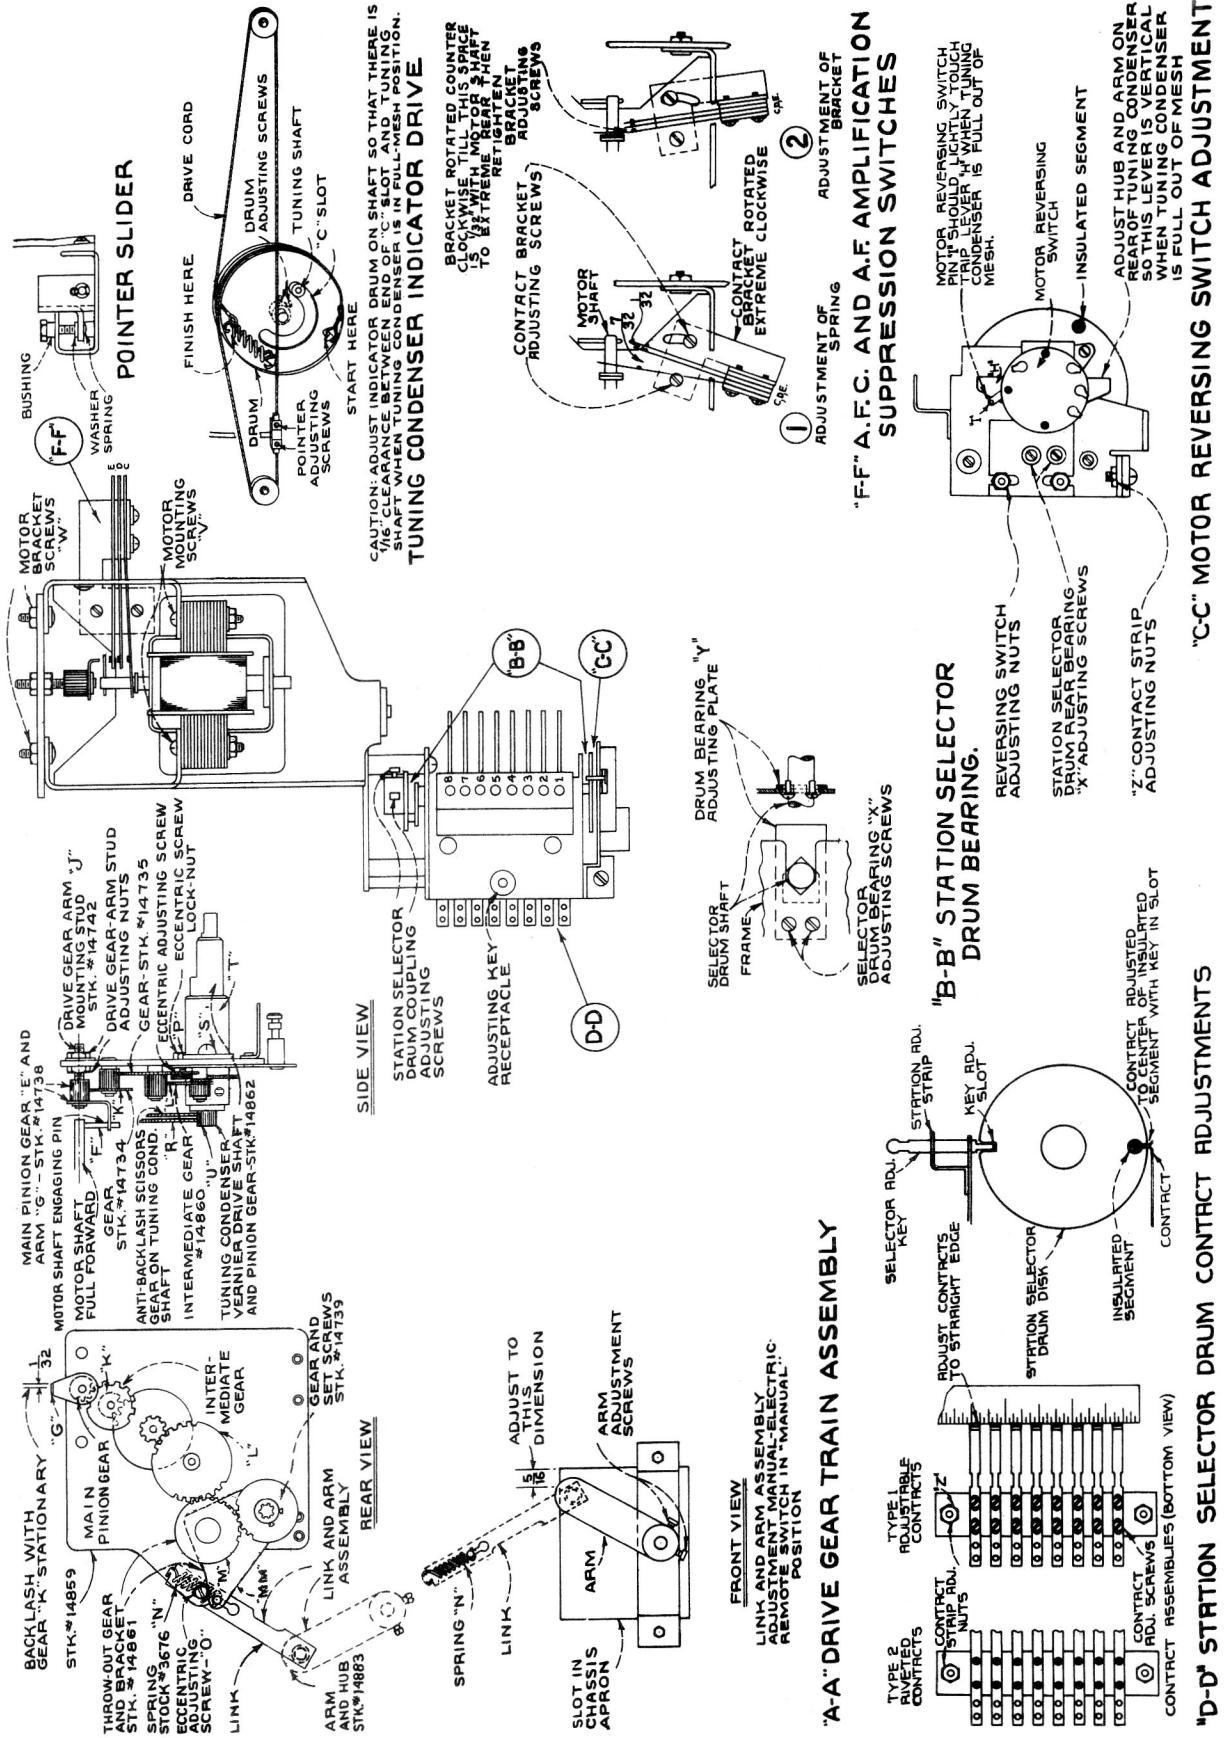

Figure 4—"Electric Tuning" Mechanism Adjustments
The electric tuning mechanism is designed to be as simple in construction and as fool proof in operation as is possible. In order to maintain the accurate results possible with this device care must be taken in effecting any repairs or adjustments. Reference should be made to figure 4 and the following:
**Station Selector Drum.**—(1) Bearing Adjustment—The selector drum may be removed by unscrewing the two bearing adjusting screws “X” on the front and rear bearings and sliding shaft out of slots on frame. To replace drum, the reverse procedure should be followed holding bearing adjusting plates “Y” firmly against the shaft and tightening adjusting screws. (2) Contact adjustment—Two types of contact strips are used. They are designated on figure 4, as types 1 and 2, on which the individual contacts are respectively adjustable and fixed. On type 1, the individual contacts should be adjusted by setting the end contact springs near the mid-position of their travel and aligning the remaining springs to them by means of a straight edge. Either type of contact strip should be adjusted to the selector drum by firmly placing two selector adjusting keys in the station adjustment strip, positions 1 and 8 (locking respective discs), loosening contact strip adjusting nuts “Z” and shifting the contact strip until the end contacts are exactly centered on the respective disc insulating segments. More accurate adjustment may be made by silhouetting the point of contact with a piece of white paper held behind the contact. Adjustment will be facilitated by removing complete assembly from rear of tuning condenser by unscrewing the three mounting screws. Contacts and discs must be kept free of dirt, filings, and other extraneous matter.
**Lubrication.**—The dial pointer slide should be greased with petrolatum. This same lubrication should be applied lightly to all gear faces of the drive mechanism and sparingly with a cloth to the station selector discs. Any good household oil, such as “3-IN-ONE,” is suitable for the motor shaft bearings. A light grade of engine oil should be used for all gear bearings. Medium viscosity engine oil, similar to “PYROIL” (B), should be applied between the thrust washers on the motor shaft. “CASTORDAG,” a mixture